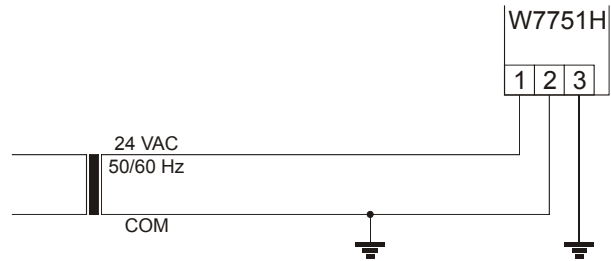

Fig. 14. Earth grounding
- In the case of multiple W7751H units operating from a single transformer, the same side of the transformer secondary must be connected to the same input terminal in each W7751H and the ground terminals (terminal 3 of the W7751H) must be connected to a verified earth ground for each controller in the group. See Fig. 14. Controller configurations are not necessarily limited to three devices, but the total power draw including accessories cannot exceed 100 VA when powered by the same transformer. For power wiring recommendations, refer to Excel 10 W7751B,D,F,H,J Variable Air Volume Controller – Application Guide (Product Literature No.: 74-2949).
- Keep the earth ground connection (terminal 3) wire run as short as possible. See Fig. 14.